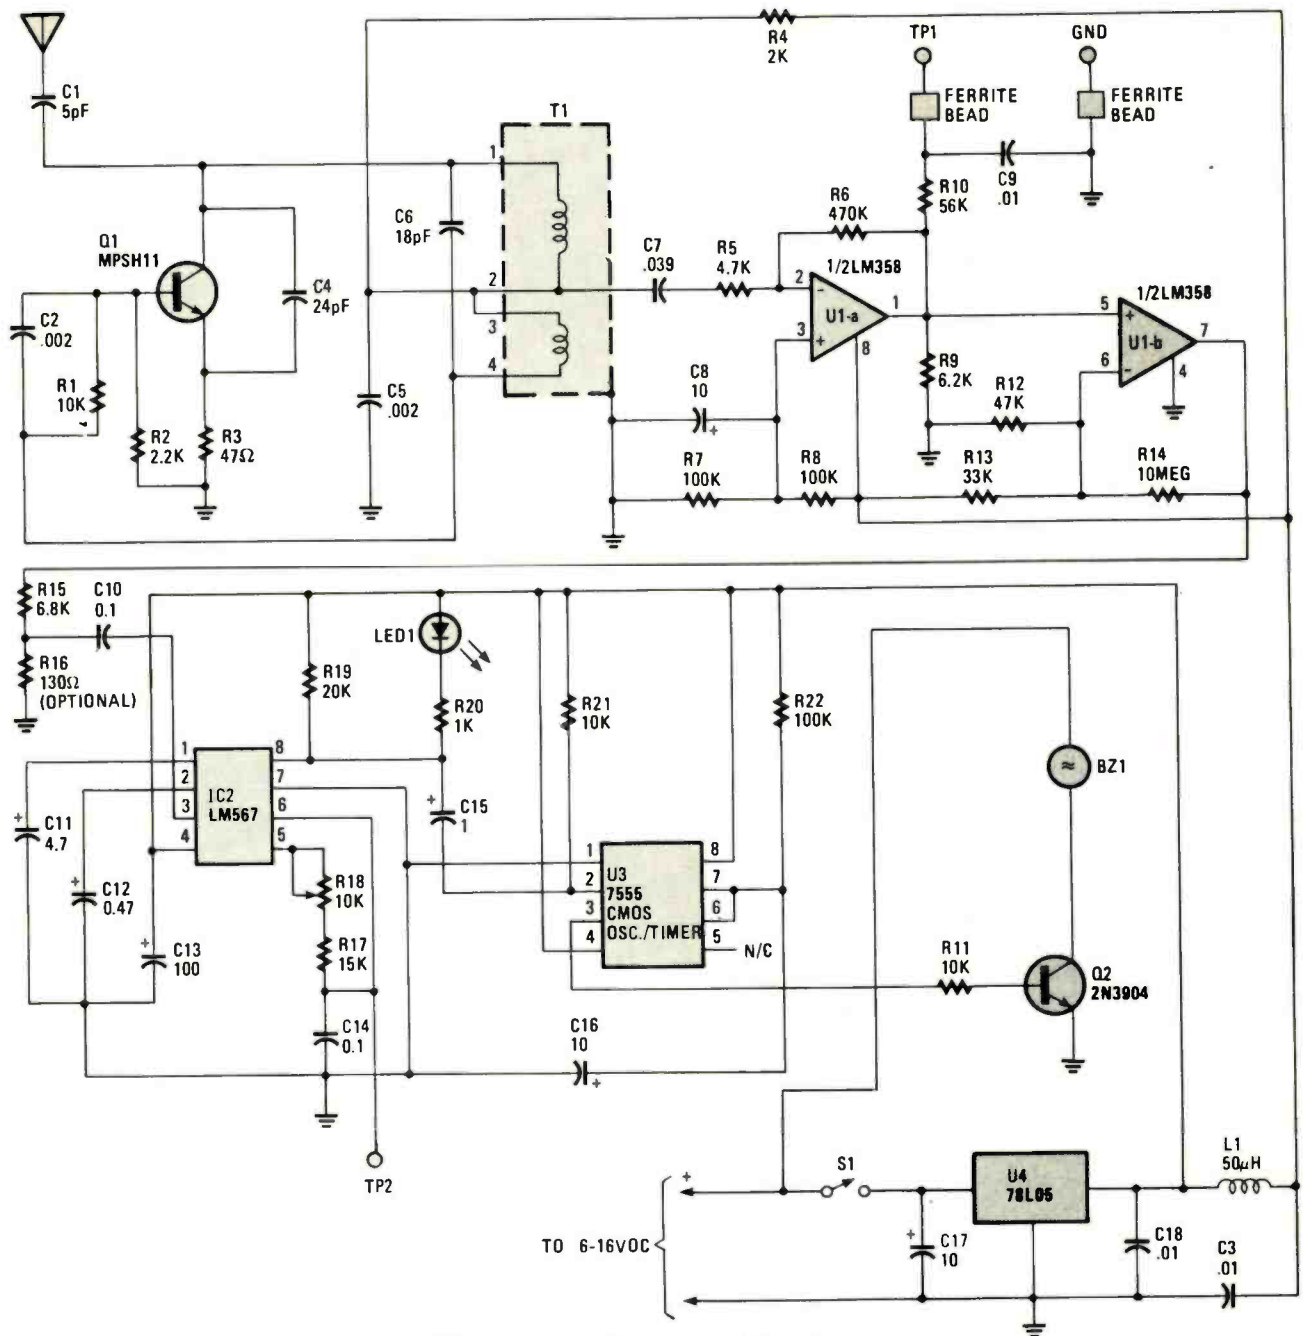

Fig. 2. The RF receiver is built around an LM358 dual op-amp (U1), an LM567 PLL tone decoder (U2), and a 555 oscillator (U3).
**The RF Receiver.** Figure 2 shows the schematic diagram of the RF receiver. Transistor Q1 and its components comprise a super-regenerative receiver. Resistors R1–R4 bias Q1 for a quiescent-emitter current of about 1 mA.